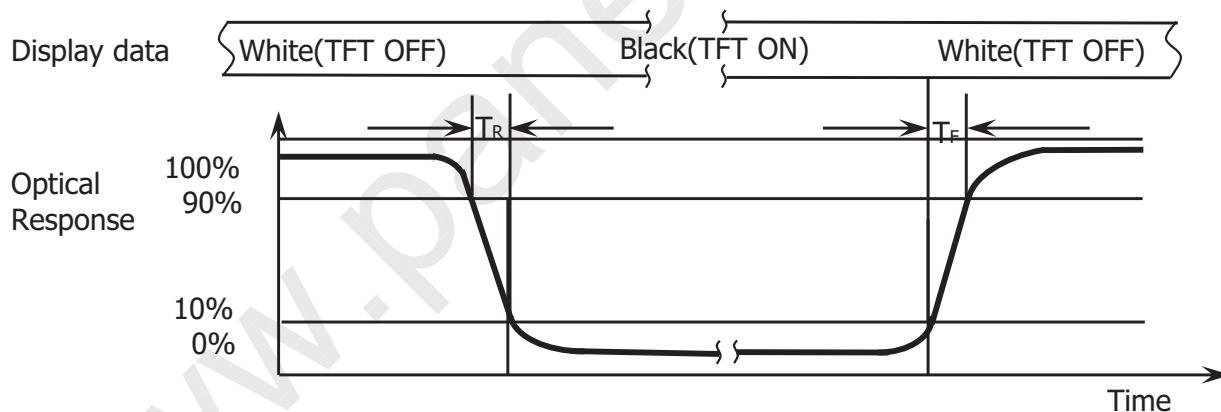

Figure 10. Response Time Testing
6. The electro-optical response time measurements shall be made as Figure 10 by switching the “data” input signal ON and OFF. The times needed for the luminance to change from 10% to 90% is T_f , and 90% to 10% is T_r .
The electro-optical response time measurements shall be made as shown in Figure 10 by switching the “data” input signal ON and OFF. T_r : The luminance to change from 10% to 90% , T_f : The luminance to change from 90% to 10% .